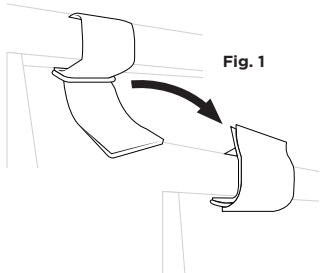

Fig. 1
- c. Wrap the two short straps around the back rail of the ladder, tightly slot the strap through the metal d-ring and fold back onto itself and secure the hook & loop. [fig. 1]